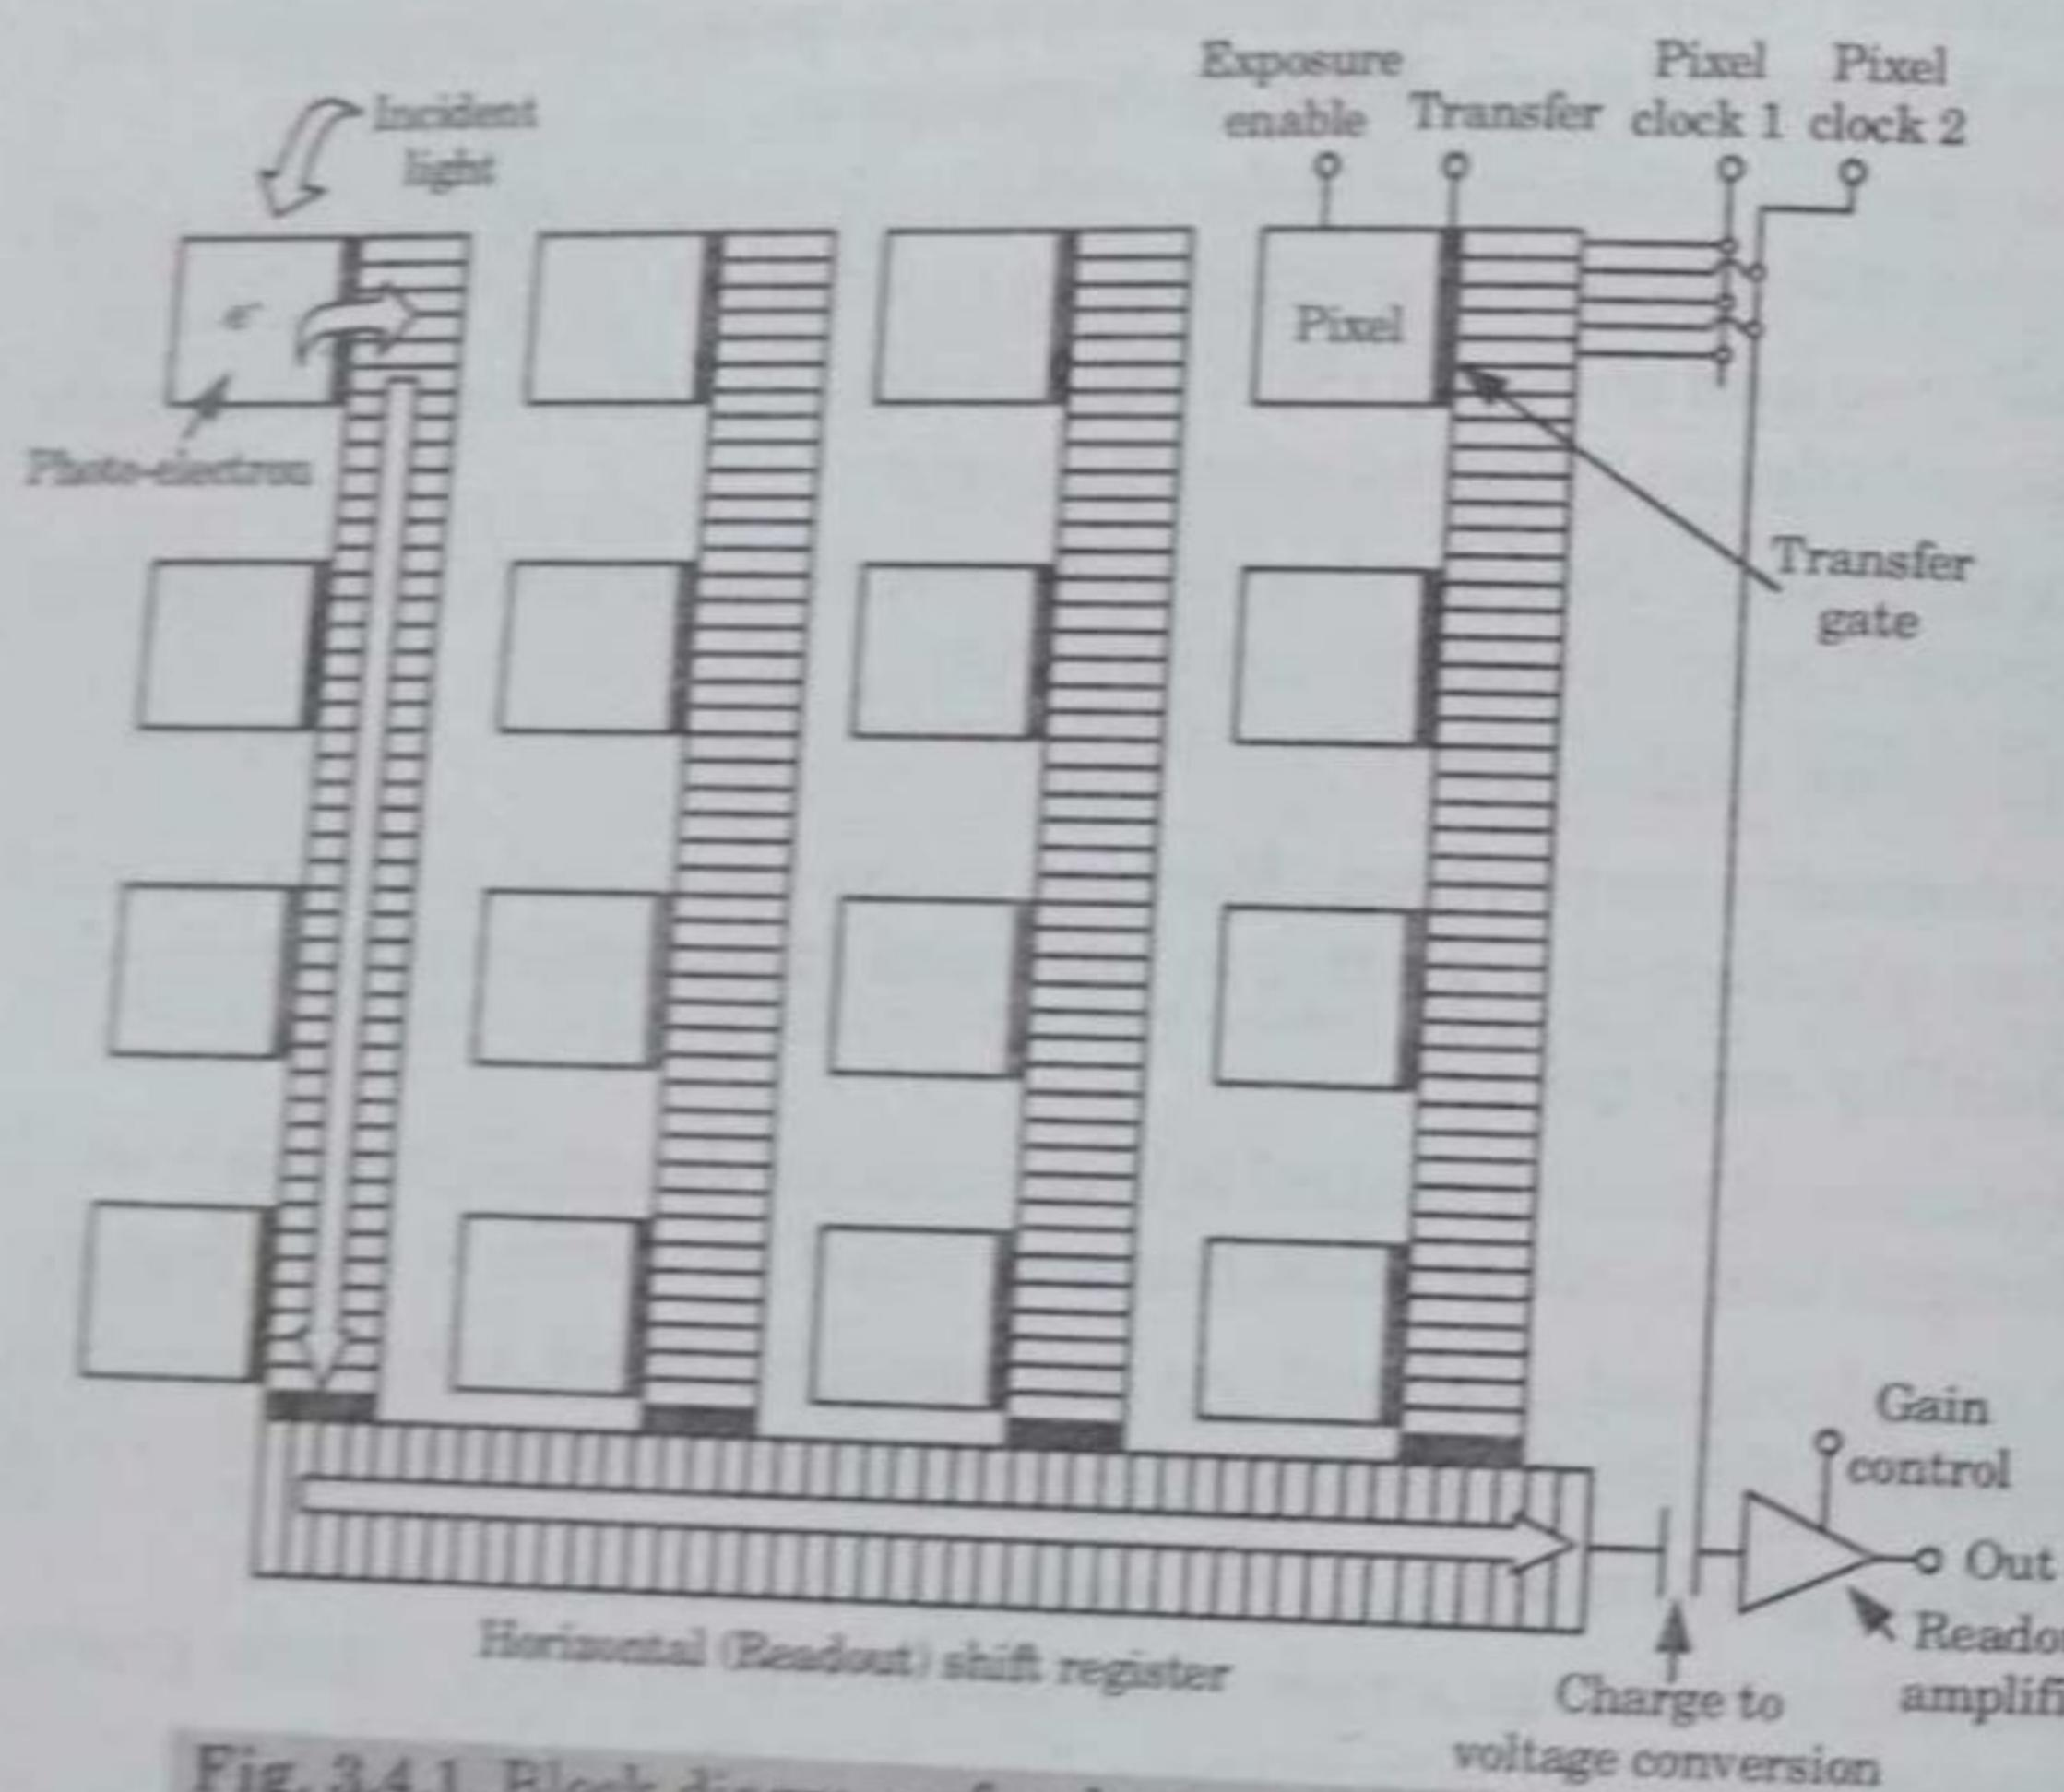

Fig. 3.4.1. Block diagram of a charge-coupled device (CCD).
1. The charge-coupled device (CCD) is a technology for capturing images, from digital astrophotography to machine vision inspection. The CCD sensor is a silicon chip that contains an array of photosensitive sites as shown in Fig. 3.4.1.